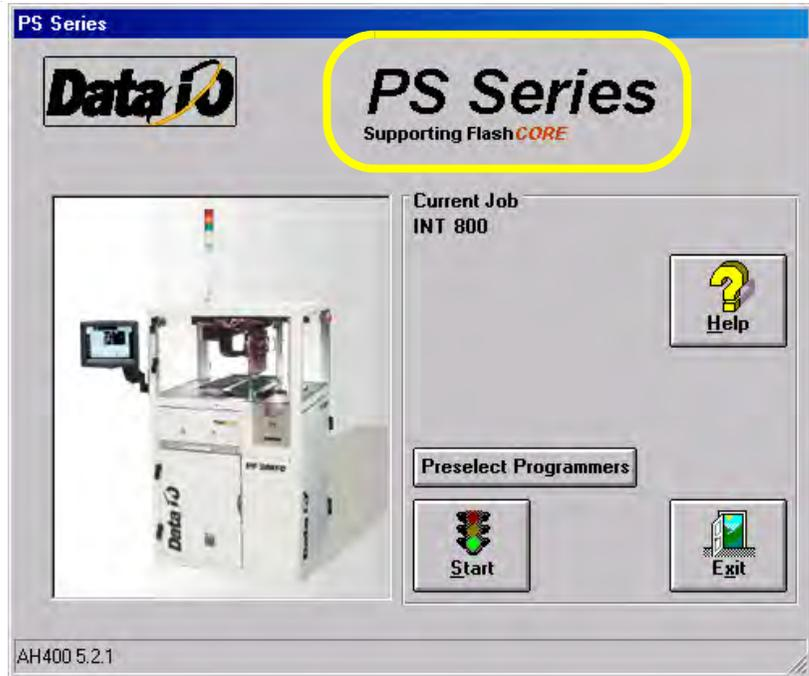

Figure 3-64—Double-click to enter Service Mode
- 2c) When the AH500 main screen opens, double-click the “PS Series” area (see Figure 3-64). This places the AH500 software in Service Mode.